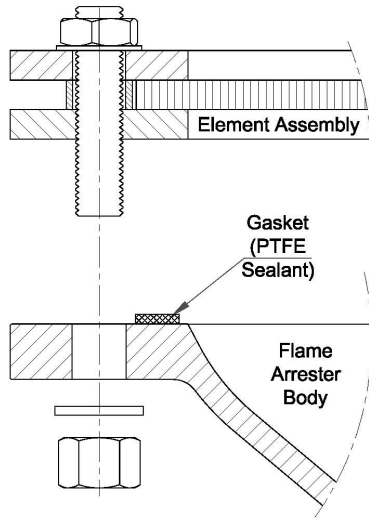

Figure 1 – Gasket Installation
- Clean both flanges of all old gasket material (Figure 1). If the surfaces are oily, clean with a solvent so that the sealant adhesive strip will adhere properly.